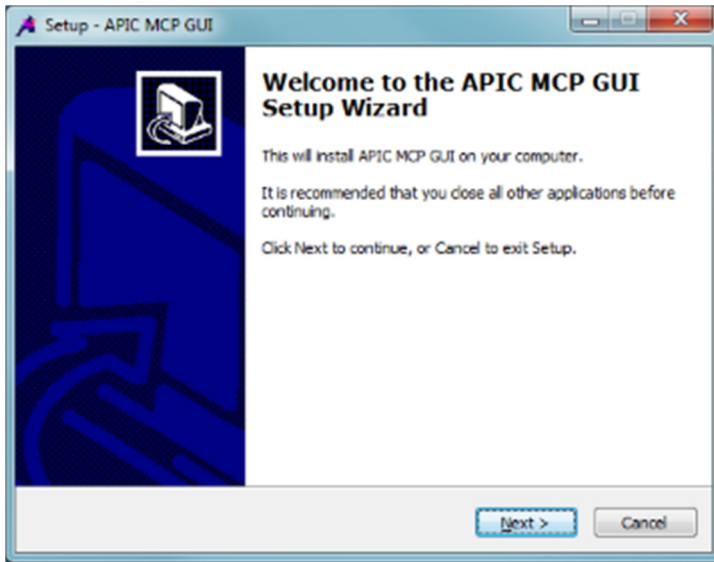

Figure 1- First Page of the APIC MCP GUI Installer
2. Run the installer (**setup_ApicMCPGui.exe**) and begin following the on-screen instructions to install the MCP GUI. (Illustrated in Figure 1). Click Next to continue.